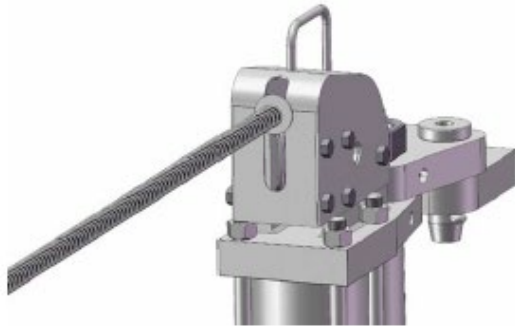

Figure 17: Push wireline spring
- 11) Push the wireline spring and washer up against the fixed sheave guard (Figure 17)